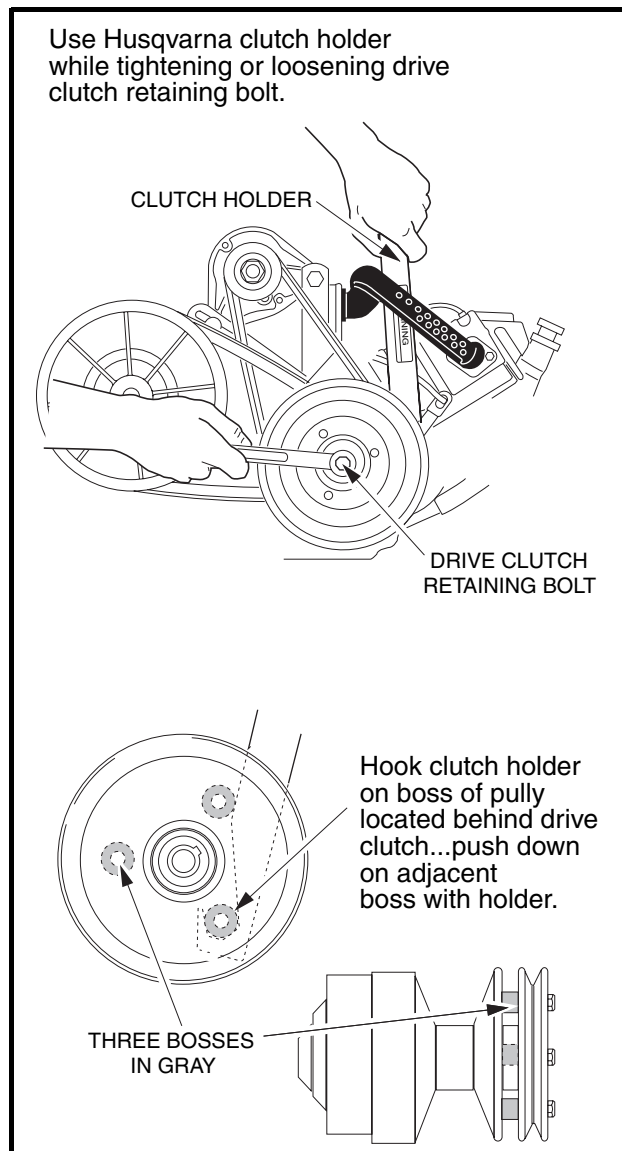
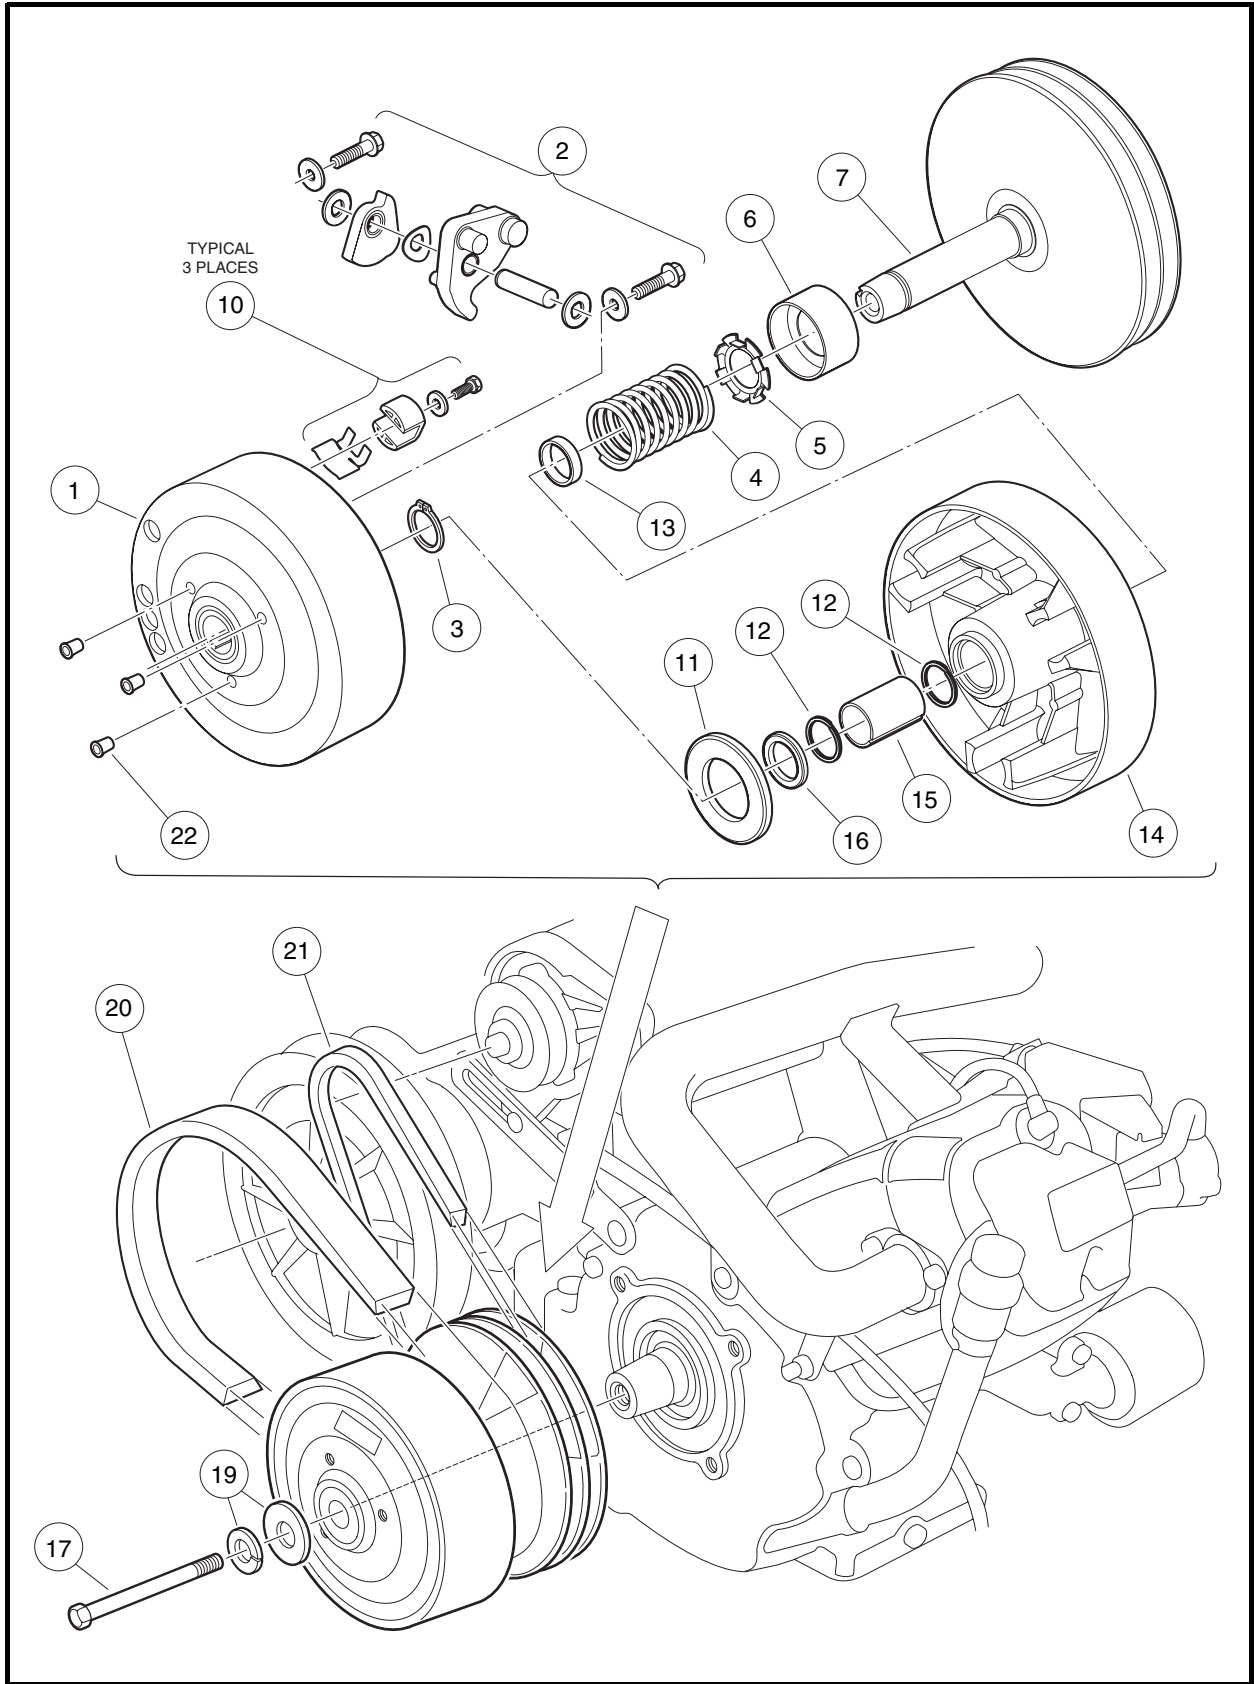
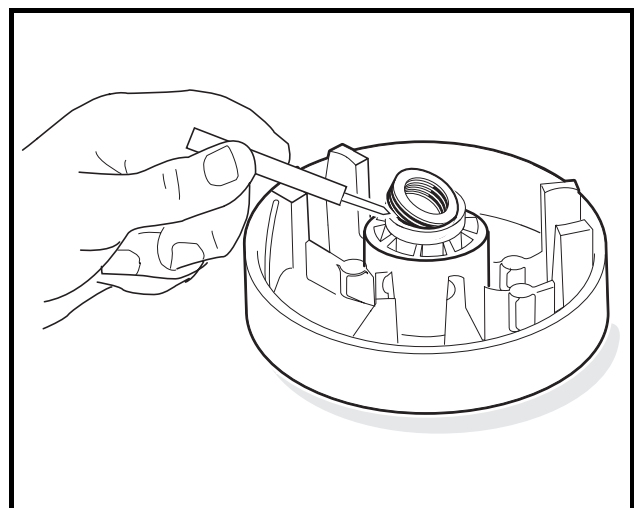

Figure 17-3 Loosen Retaining Bolt
Figure 17-5 Drive Clutch Assembly
Figure 17-13 Spiral Back-up Rings
3. If cleaning the driven clutch does not solve the problem, disassemble and thoroughly clean all parts of the drive clutch. Be sure to clean the plastic drive buttons (10) (**Figure 17-5, Page 17-6**).
4. Remove the drive clutch retaining bolts (17) and mounting washers (19) (**Figure 17-5, Page 17-6**) **See also Figure 17-3, Page 17-4. See following NOTE.**
- **Use only a dry cloth to lightly wipe the shaft of the fixed face assembly (7) (Figure 17-5, Page 17-6). Do not use a brush or steel wool. These will damage the surface of the shaft.**
2. Remove the drive clutch hub (1) (Figure 17-5, Page 17-6):
- 2.1. Remove the three plugs (22) from the clutch puller attachment holes (Figure 17-5, Page 17-6).
3. Remove the thrust washer (11) from the moveable face (14) (Figure 17-5, Page 17-6).
- Remove the retaining ring (3) from the shaft of the fixed face assembly (7) and slide the moveable face (14) off the shaft (**Figure 17-5, Page 17-6**). See following **NOTE**.
NOTE: If the moveable face is removed from the hub of the fixed face, the spiral back-up rings (12) must be replaced with new ones (**Figure 17-5, Page 17-6**).
- Remove the spacer (16), and spring (4) and retainer (5). The spring retainer can be removed from the spring if necessary (**Figure 17-5, Page 17-6**).
- Use a scribe or small pick to remove the spiral backup rings (12) from each end of the bore in the fixed face assembly (**Figure 17-5, Page 17-6**). See also **Figure 17-13, Page 17-9**. Discard the rings.
- Inspect the idler bearing (6) for smooth rotation or seal damage (**Figure 17-5, Page 17-6**). See following **NOTE**.
- Inspect the bore of the moveable face assembly (14) for scarring or wear. The moveable face assembly must be replaced if the bore is worn to a diameter of 0.883 inch (22.4 mm) or larger (**Figure 17-5, Page 17-6**).
- Inspect the steel shaft (7) on the fixed face assembly. There should be no measurable wear anywhere on the shaft. Replace the shaft if it is worn, scratched, or damaged.
- Inspect the thrust washer (11) for wear. If it is worn more than 0.030 inch (0.76 mm), turn it over or replace it with a new one.
- Inspect the primary weights (2) and the hub casting for wear. If the primary weights show signs they are touching the casting, the tips of the weights have worn beyond specification and they must be replaced.
1. Press idler bearing (6) onto the shaft of the fixed face assembly (7). Press on the inner race of the bearing only. Make sure that the cup side of bearing is facing away from the fixed face (**Figure 17-5, Page 17-6**).
2. Using needle nose pliers, install the spring retainer (5) onto the spring (4).
3. Install the spring (4) and retainer (5) into the cup of the idler bearing (6).
4. Install the spacer (13) onto the shaft of the fixed face.
5. Install a new spiral backup ring (12) in each end of the bore of the moveable face assembly (14).
6. Install the moveable face assembly (14) onto the shaft of the fixed face assembly (7).
- 6.2. Install the retaining ring (3) (**Figure 17-5, Page 17-6**).
12. Install the 1/4-20 bolts and washers (2) and tighten them to 10 ft-lb (13 N·m) (**Figure 17-5, Page 17-6**).
16. Install the thrust washer (11) onto the moveable face assembly (**Figure 17-5, Page 17-6**).
17. Install the hub assembly (8) on the moveable face assembly and align the match marks made before disassembling the clutch. Press the hub assembly on by hand.
18. Replace the three plastic plugs (22) into the hole protectors (**Figure 17-5, Page 17-6**).
1. Place the drive clutch assembly on the crankshaft taper. Position the mounting washer (with the green side facing out) on the bolt (17) and start the bolt into the crankshaft (**Figure 17-5, Page 17-6**). **See following NOTE.**
2. Tighten the drive clutch retaining bolt (17) to 25 ft-lb (33.9 N·m) (**Figure 17-5, Page 17-6**).